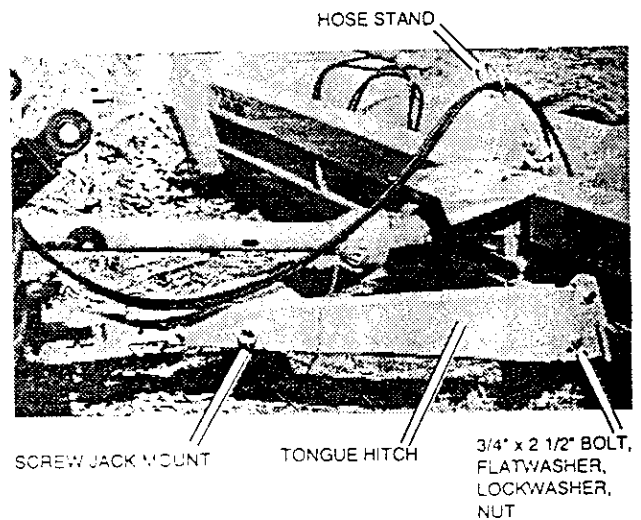

Figure B-4: Hitch Assembly of Pull-Type Unit showing the Bolt-On Tongue.
1. Figure B-4 shows the bolt-on tongue hitch of the pull-type models.
- a) Install the screw jack onto the mount that is located on the outside of the left tongue hitch arm at the front of the shredder. See Figure B-4.